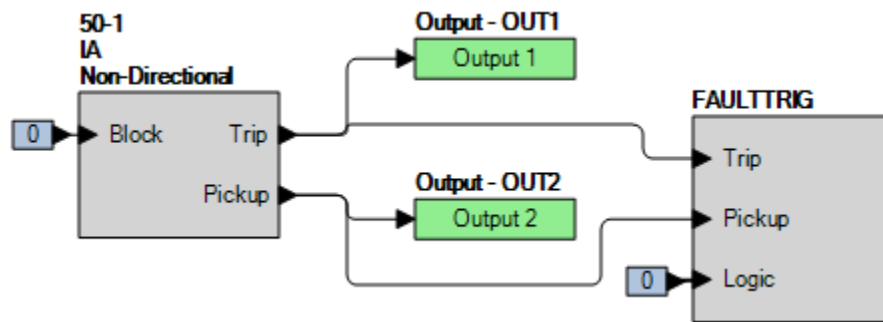

Figure 63-1. BESTlogicPlus Settings (Phase Mode)
Step 2: Use BESTCOMSP $Plus$  to configure the BESTlogic $Plus$  programmable logic shown in Figure 63-1.
- Step 4: Prepare to monitor the 50-1 function operation. Operation can be verified by monitoring OUT2 (see Figure 63-1).